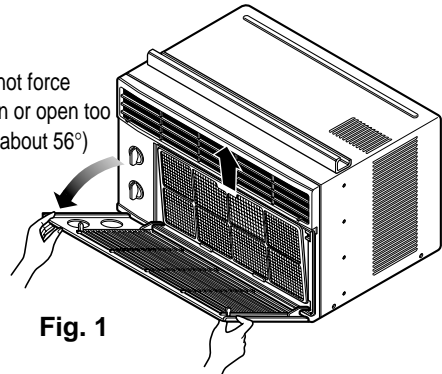

Fig. 1
1. Remove the front cover by gripping the top outside edges and pulling toward you (see Fig.1). You will notice that the grille will only open to about 56°. Do not force the grille open too far.